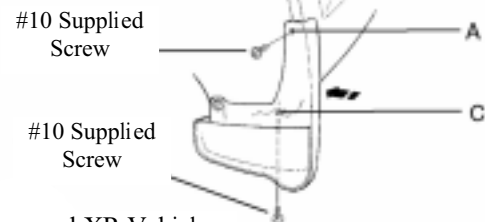

Fig. F-4
-  4. While holding part at locations A and C tightly against body, install supplied #10 screws in locations A and C (Fig. F-4).